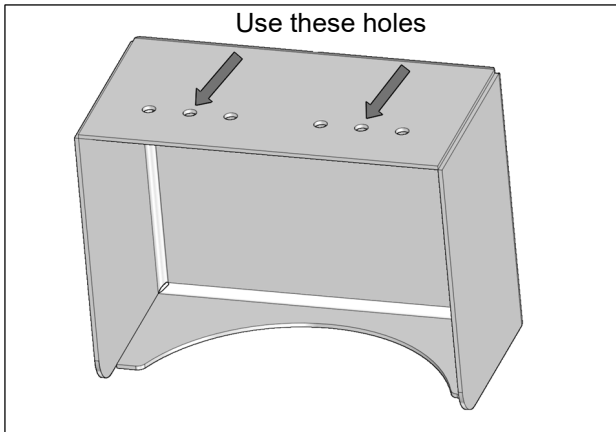

Fig. 14
14. Use the two middle holes indicated by arrows on Fig. 14